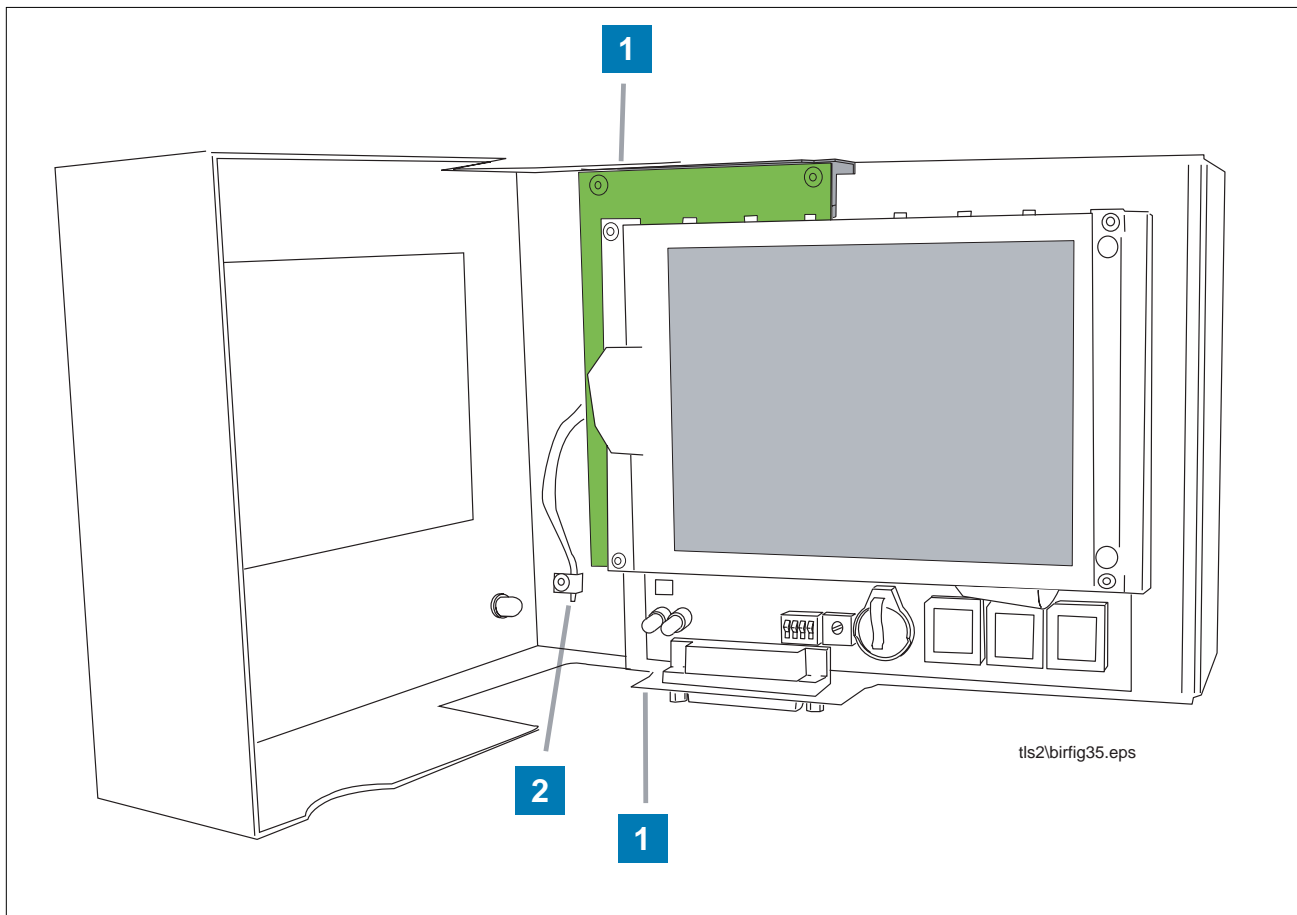

Figure 7. Attaching the new door to the TLS-2N Console
- 16 Remove and retain the top and bottom T-15 screws and washers used to attach the left side of the removed door to the console (item 1 in Figure 7). Get the new door from the kit and attach its left side to the console using these screws and washers. Tighten the screws.